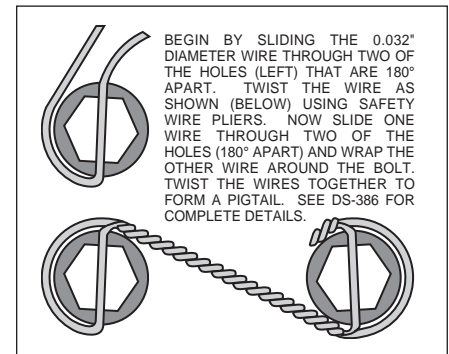

Figure 3. Safety Wire Diagram
- With the larger I.D. side of the rotor (7) facing away from the hat (8), bolt rotor (7) to hat (8) through the backside of the rotor using bolts (9), and washers (10). Using an alternating sequence, apply red *Loctite*® 271 to the threads and torque bolts to 155 in-lb. For an added measure of security, the bolts may be safety wired using standard 0.032 inch diameter stainless steel safety wire as shown in Figure 3. Please refer to Wilwood's data sheet DS-386 for complete safety wire installation instructions. Slide the rotor/hat assembly onto the spindle. Check to be sure the hat seats squarely against the hub. Install a couple of lug nuts (finger tighten) to keep the rotor/hat assembly in place while continuing with the installation.